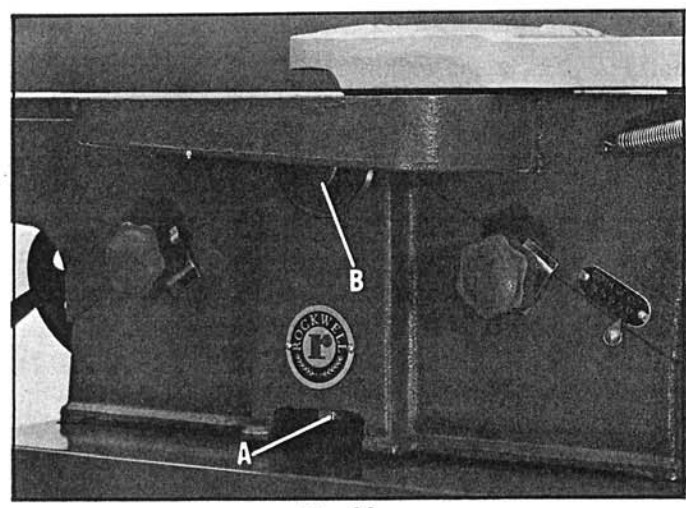

Fig. 18
3. Unscrew the hex head screw (A) Fig. 18, until it is free from the bearing housing (B). Also unscrew the hex head screw located on the opposite end of the jointer base.